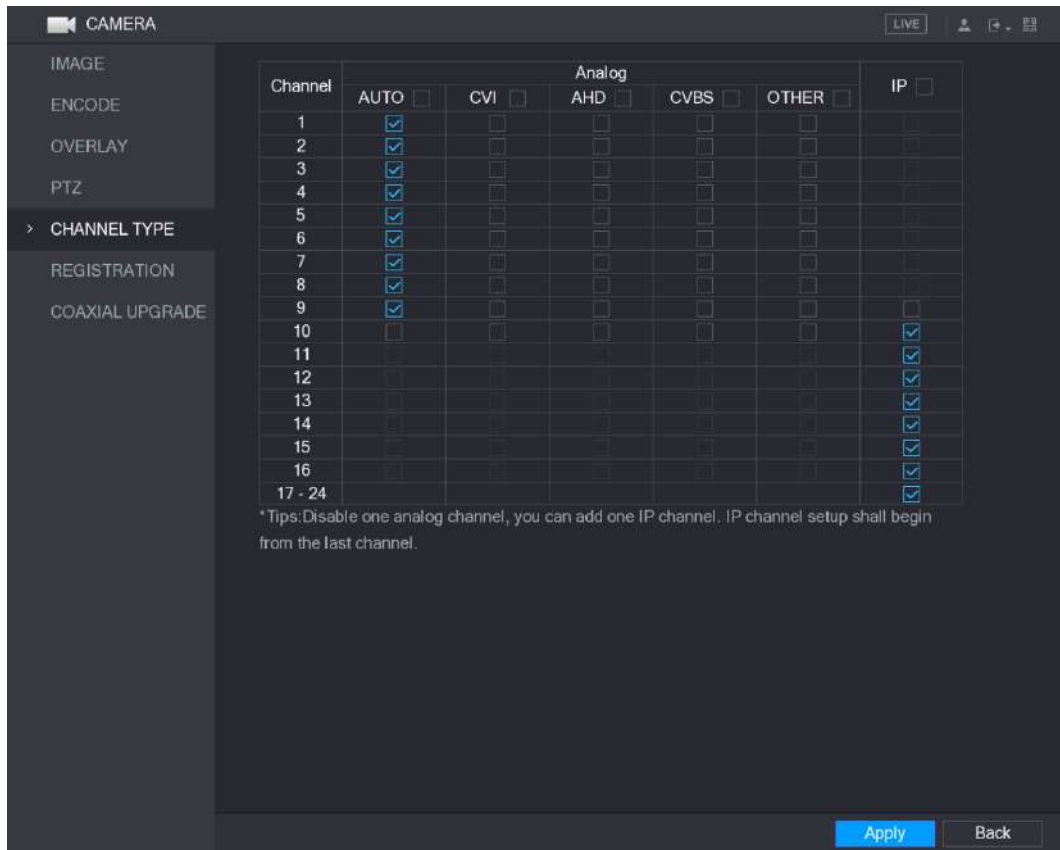

Figure 5-68
The **CHANNEL TYPE** interface is displayed. See Figure 5-68.
- IP Channel: The Device provides expanded IP channels for your use. For example, the **17–24** channels in Figure 5-68 are expanded IP channels. To enable the IP channel, select from the last channel number **17–24** check box. Then follow the onscreen instructions to complete the settings.